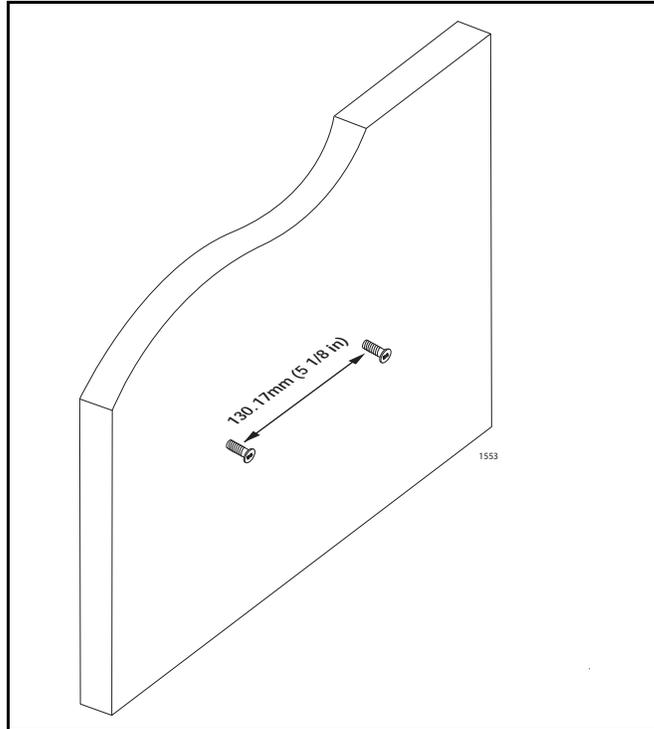
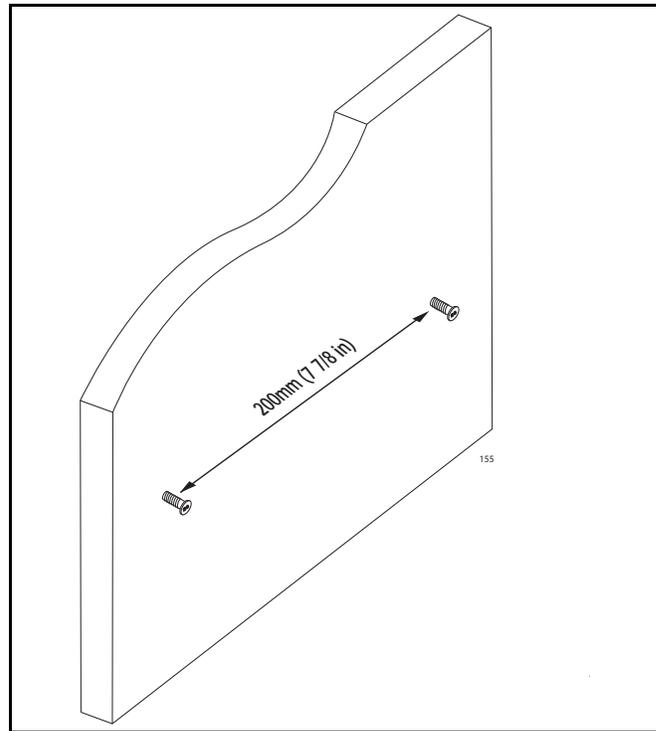

Figure 11. Installing the Mounting Screws for AT-FS716L in the Wall
Figure 12. Installing the Mounting Screws for AT-FS724L in the Wall
4. Install the two plastic anchors and two screws provided into the wall so that they are level with each other. They should be spaced 130.17mm (5 1/8 in) apart for the AT-FS716L or 200mm (7 7/8 in) apart for the AT-FS724L as shown in Figure 11 and Figure 12.